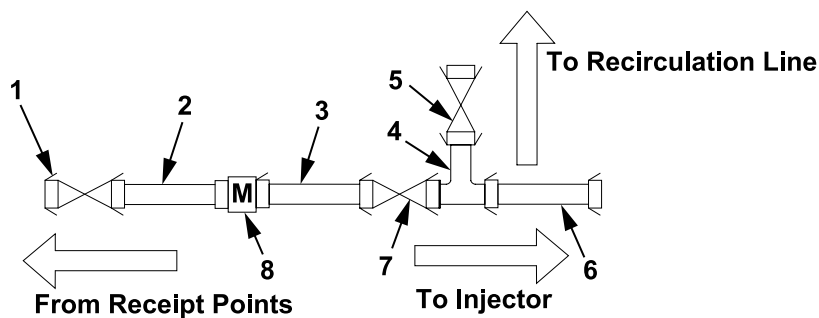

Figure 18. Installation of Flowmeter Connections.
3. Connect the female X male X female tee assembly (Figure 18, Item 4) to the end of the 4 in. X 10 ft discharge hose (Figure 18, Item 6).
5. Connect gate valve (Figure 18, Item 7) and gate valve (Figure 18, Item 5) to the female X male X female tee assembly (Figure 18, Item 4).
7. Connect one section of 4 in. X 10 ft discharge hose (Figure 18, Item 3) to gate valve (Figure 18, Item 7).
9. Position the spill containment berm on the ground adjacent to the end of the 4 in. X 10 ft discharge hose (Figure 18, Item 3).
10. Place the flowmeter (Figure 18, Item 8) in the spill containment berm.
11. Connect 4 in. X 10 ft discharge hose (Figure 18, Item 3) to flowmeter (Figure 18, Item 8).
13. Connect one section of 4 in. X 10 ft discharge hose (Figure 18, Item 2) to flowmeter (Figure 18, Item 3).
15. Connect the gate valve (Figure 18, Item 1) to the 4 in. X 10 ft discharge hose (Figure 18, Item 2).
16. Ground the flowmeter (Figure 18, Item 8).
- a. Remove the ground rod assembly from the ground rod box on the flowmeter assembly (Figure 18, Item 8).
- c. Attach ground cable clamps to the flowmeter (Figure 18, Item 8).